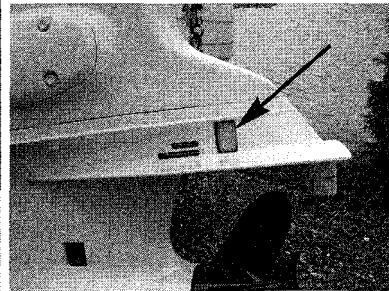

Fig. 84 All motors have at least one (1) anode mounted on the lower unit ...
- ◆ See Figures 84, 85, 86, 87 and 88